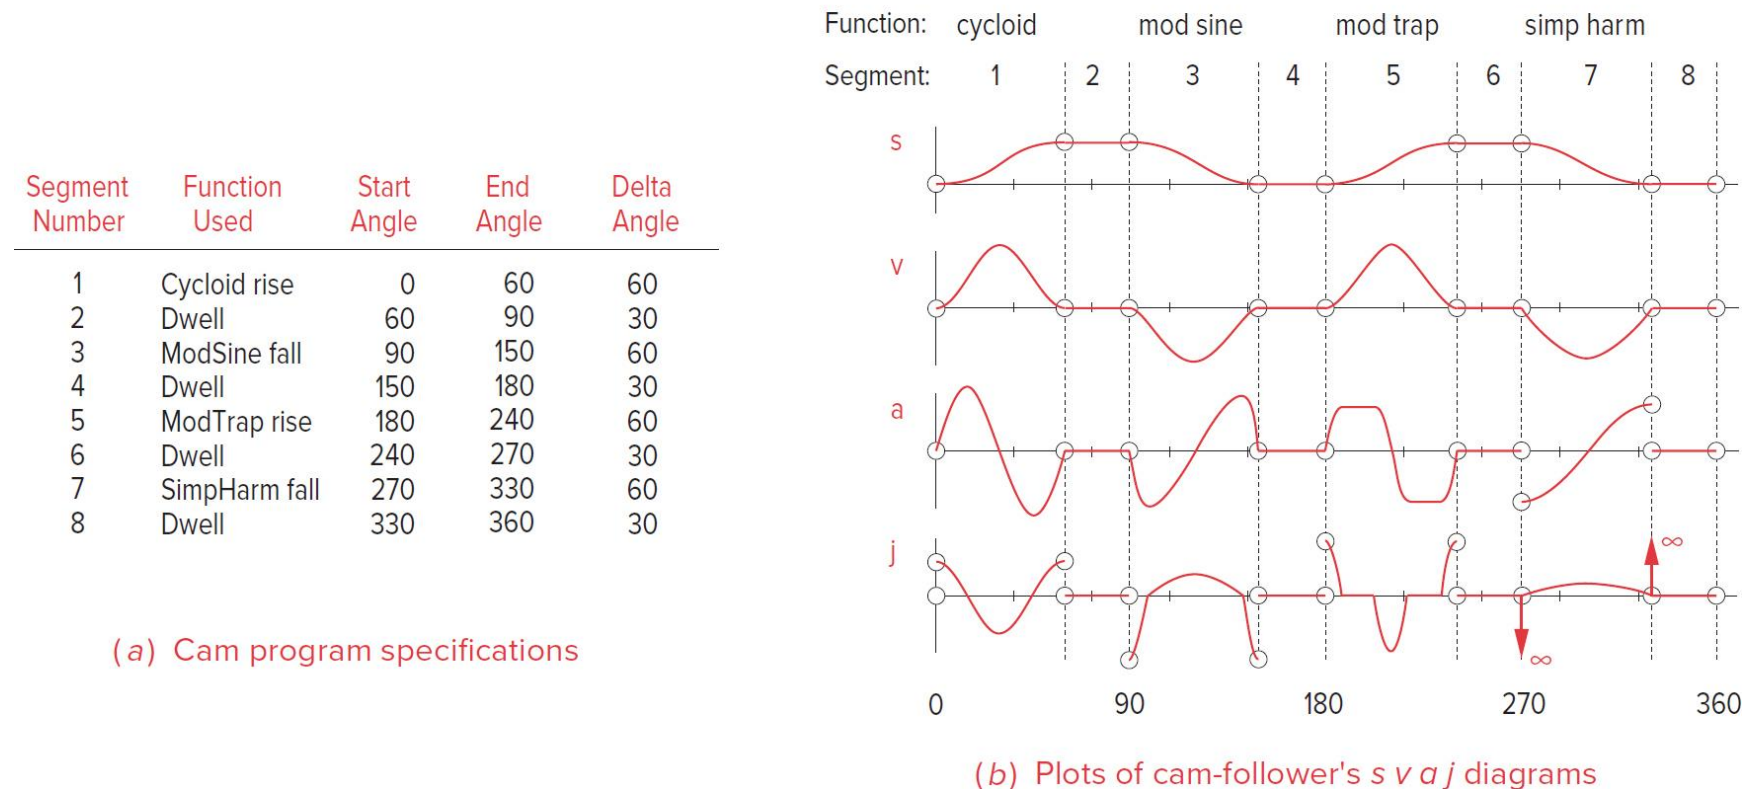

Figure 8-6. Three Common Types of Cam-Followers. Source: Design of Machinery's Textbook by Robert L. Norton.
- As the cam rotates, the follower is constrained to rise and fall, following plots of cam-follower SVAJ functions as shown Figure 8-6(a).